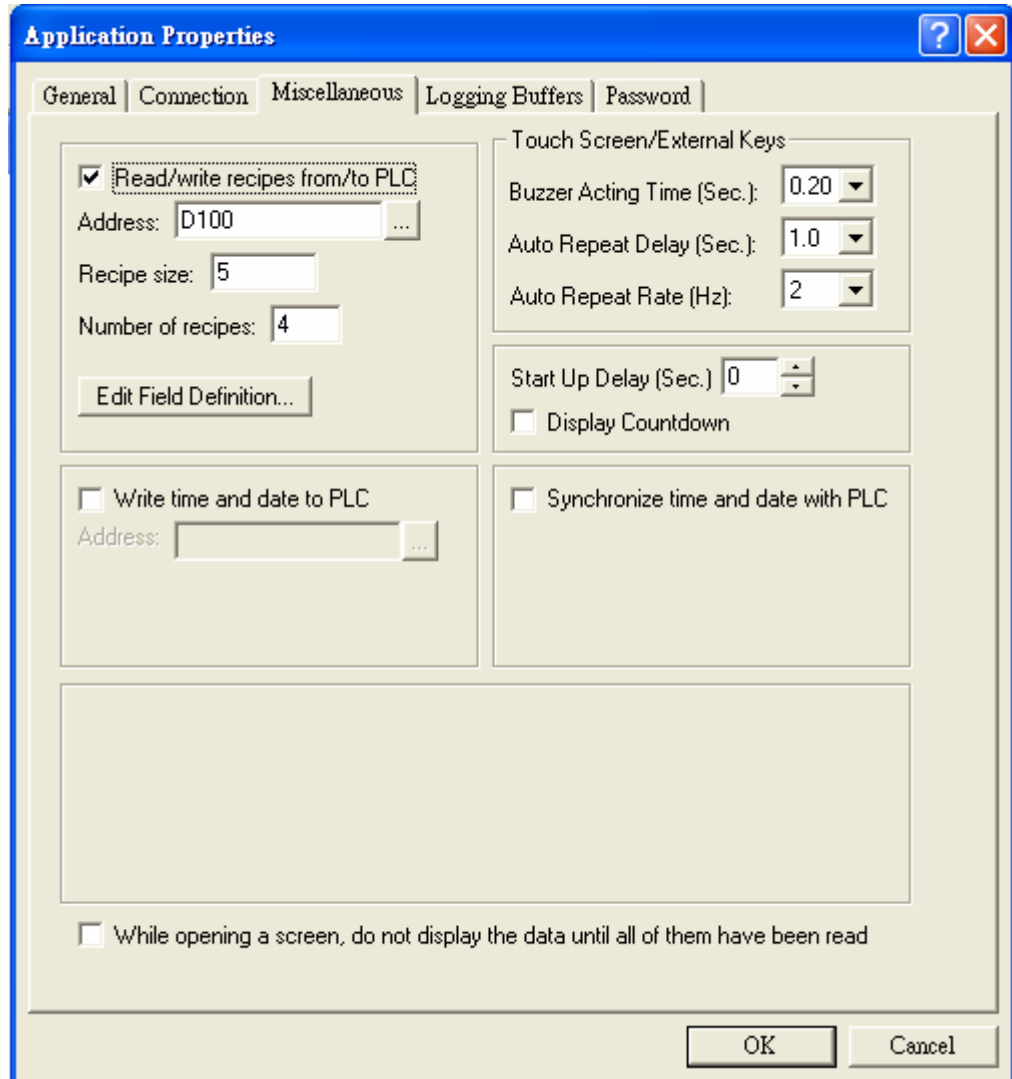

Figure 186. Setup [Recipe size] and [Number of recipes]
1. First, a user needs to define **Recipe Register**. Select [Application]/ [Workstation Setup], and enter the PLC address, [Recipe size] and [Number of recipes] on the [Miscellaneous] tab. In this example, [Data size] = 5, [Number of recipes] = 4. See Figure 186.